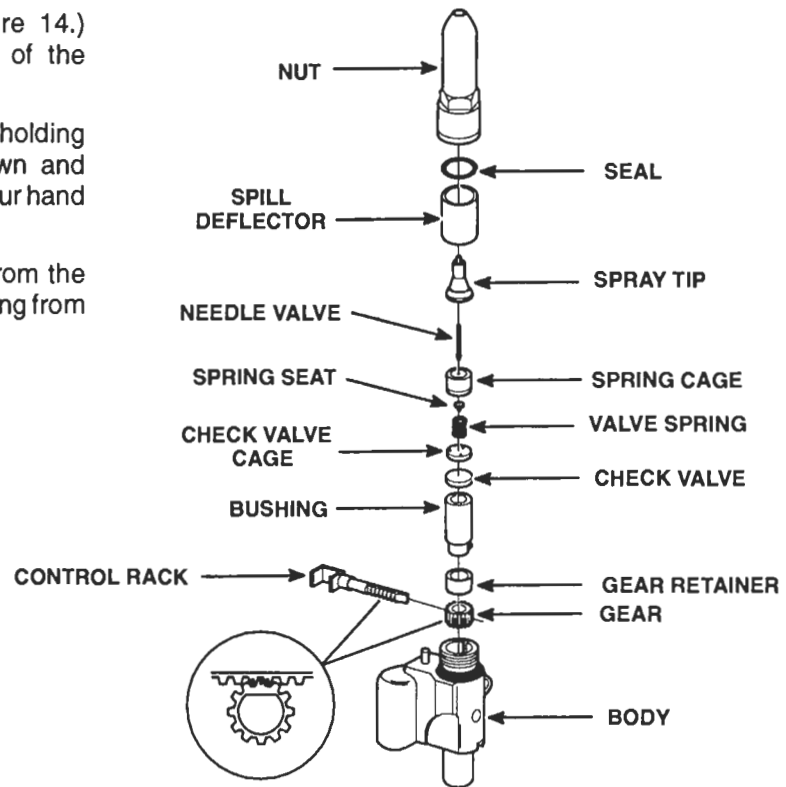

Figure 14. Injector Rack, Gear, Spray Tip and Valve Parts
6. Remove the spill deflector (Figure 14.) Then lift the bushing straight out of the injector body.